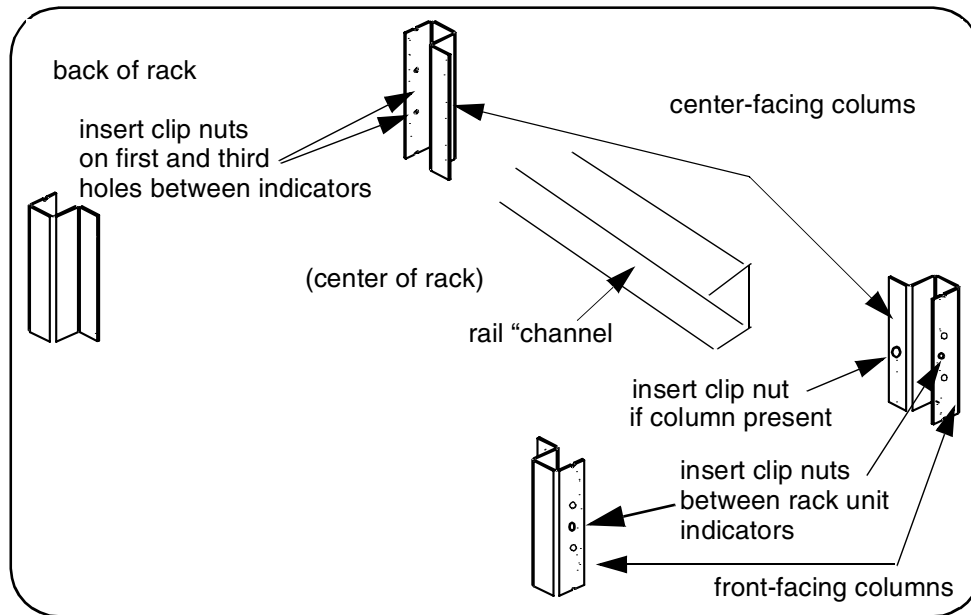

Figure 4-3. Rack Column and Shelf Rail Orientation.
1. Select the vertical position in the rack between any two adjacent EIA unit indicators where the L4411A is to be installed. Insert clip-on nuts (item 5) on the three holes between the unit indicators. Place nuts on both the left and right front-facing columns (Figure 4-3).
If center-facing columns with holes are present on the frame, insert a clip-on nut on the hole perpendicular to the center hole on the front facing column. See Figure 4-3.
If the rack has center-facing columns (Figure 4-3), insert a 10-32 pan head screw through the rail opening and clip nut (perpendicular to the front-facing column). Repeat for the rail on the opposite column.